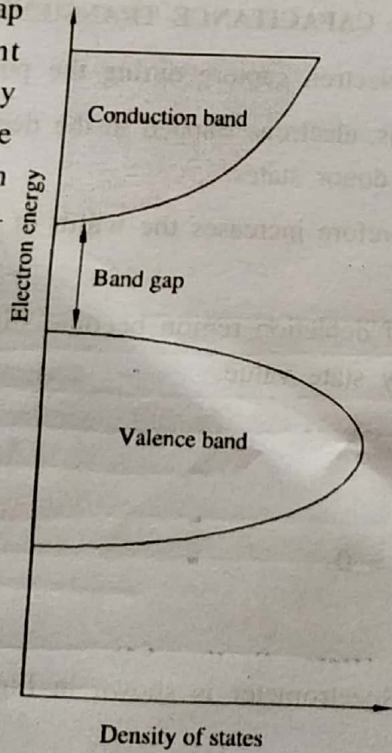

FIG. 4.9 : EXPLANATION OF BAND GAP
The term 'band gap' refers to the energy difference between the top of the valence band to the bottom of the conduction band, Fig. 4.9, in which electrons are able to jump from one band to another.
- A diagram shows the band gap is shown in Fig. 4.9.
- UV - VIS spectrometer measures the intensity of light passing through the sample (I) and compares it to the calibrated intensity (I₀).